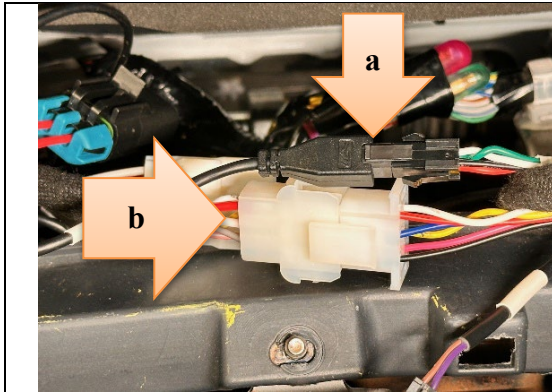
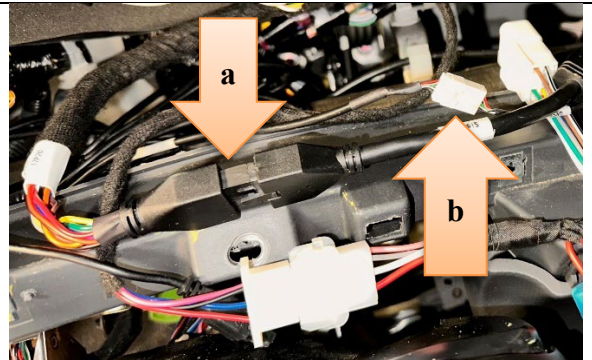

Figure 59
Figure 60
59. Disconnect the camera cable. **For Mobileye 6**, connector MH-2 and the EyeWatch connector MB-3. (See Figure 59.) **For Mobileye 8**, 14 pin (Black) connector and optional GPS connector. (See Figure 60.)
74. **For Mobileye 8**, re-install the oval cover onto the back of the Mobileye camera. If equipped with **Mobileye 6**, re-install the rectangular cover. (See Figure 60.)